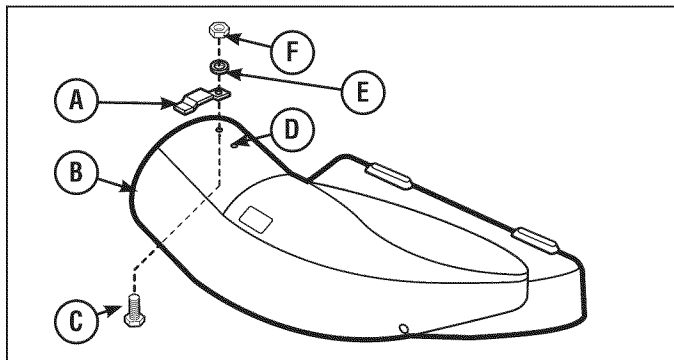

Figure 9
1. Place tube latch (A, Figure 9) on bagger adapter assembly (B).
2. Insert carriage bolt (C) through top hole (D) and secure with washer (E) and nut (F).